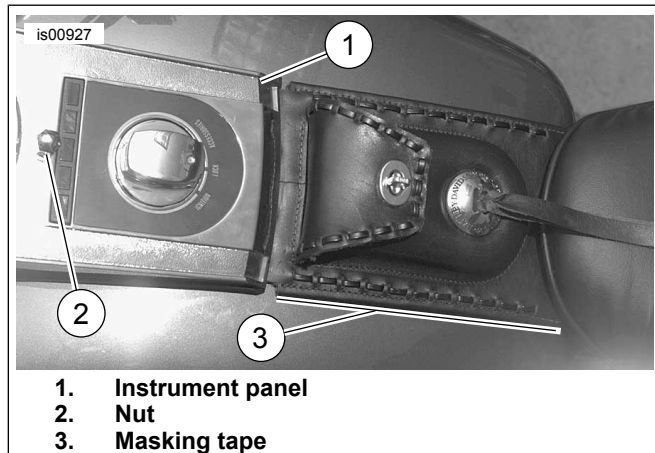
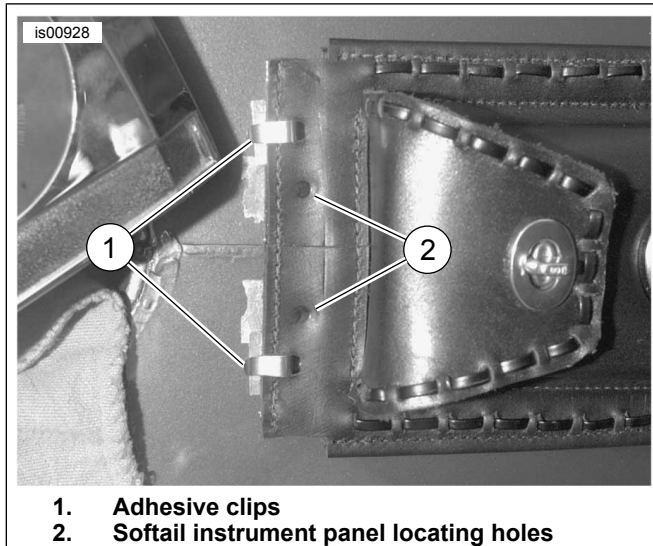
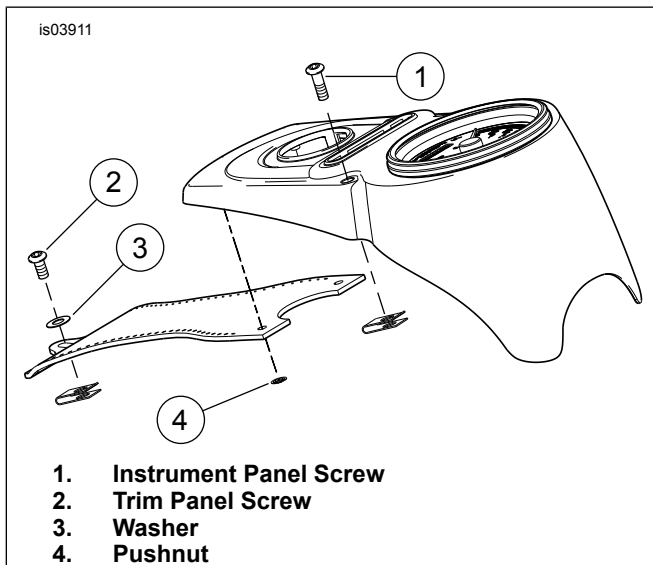

Figure 1. Leather Fuel Tank Panel Installed
Figure 3. Adhesive Clips At Front Of Panel
Figure 4. Tank Panel-2004 & Later Dyna Fitments
2. See Figure 1. Remove nut (2) securing instrument panel (1). Gently lift instrument panel up and turn it so stock fuel tank panel front end is uncovered.
7. See Figure 1. Install instrument panel (1) and tighten nut (2) to 11 N·m (8 ft-lbs).
2. **1993-2003 Models:** Figure 1. Remove nut (2) securing instrument panel (1). Gently lift instrument panel up and turn it so stock fuel tank panel front end is uncovered. **2004 and later Models:** See Figure 4. Remove two screws (1) securing instrument panel.
4. **1993-2003 Models:** See Figure 3. Remove O-ring securing rear end of stock leather fuel tank panel (note position of O-ring). Open metal tabs on adhesive clips at front end of stock leather fuel tank panel and remove stock tank panel. **2004 and later Models:** See Figure 4. Remove lower mounting screw (2) and washer (3) and set aside to reuse. Lift instrument panel and carefully remove pushnuts (4) fastening the upper tank panel to the instrument panel. Skip to Step 10.
10. See Figure 1. Align the leather fuel tank panel with the instrument panel (1). Mark the location on the fuel tank with masking tape (3) placed along the side of the tank panel. Also mark location of top edge.
11. Remove the instrument panel (1) from the tank.
12. See Figure 3. Install adhesive clips (1) on leather fuel tank panel and remove paper backing from adhesive pads.
14. **1993-2003 Models:** See Figure 1. Install instrument panel (1) to fuel tank and tighten nut (2) to 11 N·m (8 ft-lbs). **2004 and later Models:** See Figure 4. Install instrument panel using screws (1) to fuel tank. Tighten screws to 2–2.7 N·m (18–24 in-lbs).